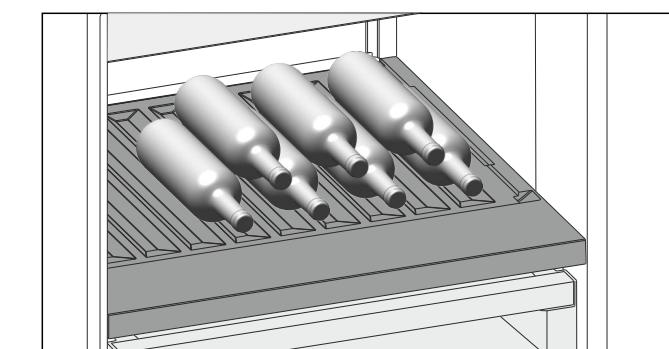

Fig. 81
- Place bottles in the back row with their bases against the back wall. (see Fig. 81)